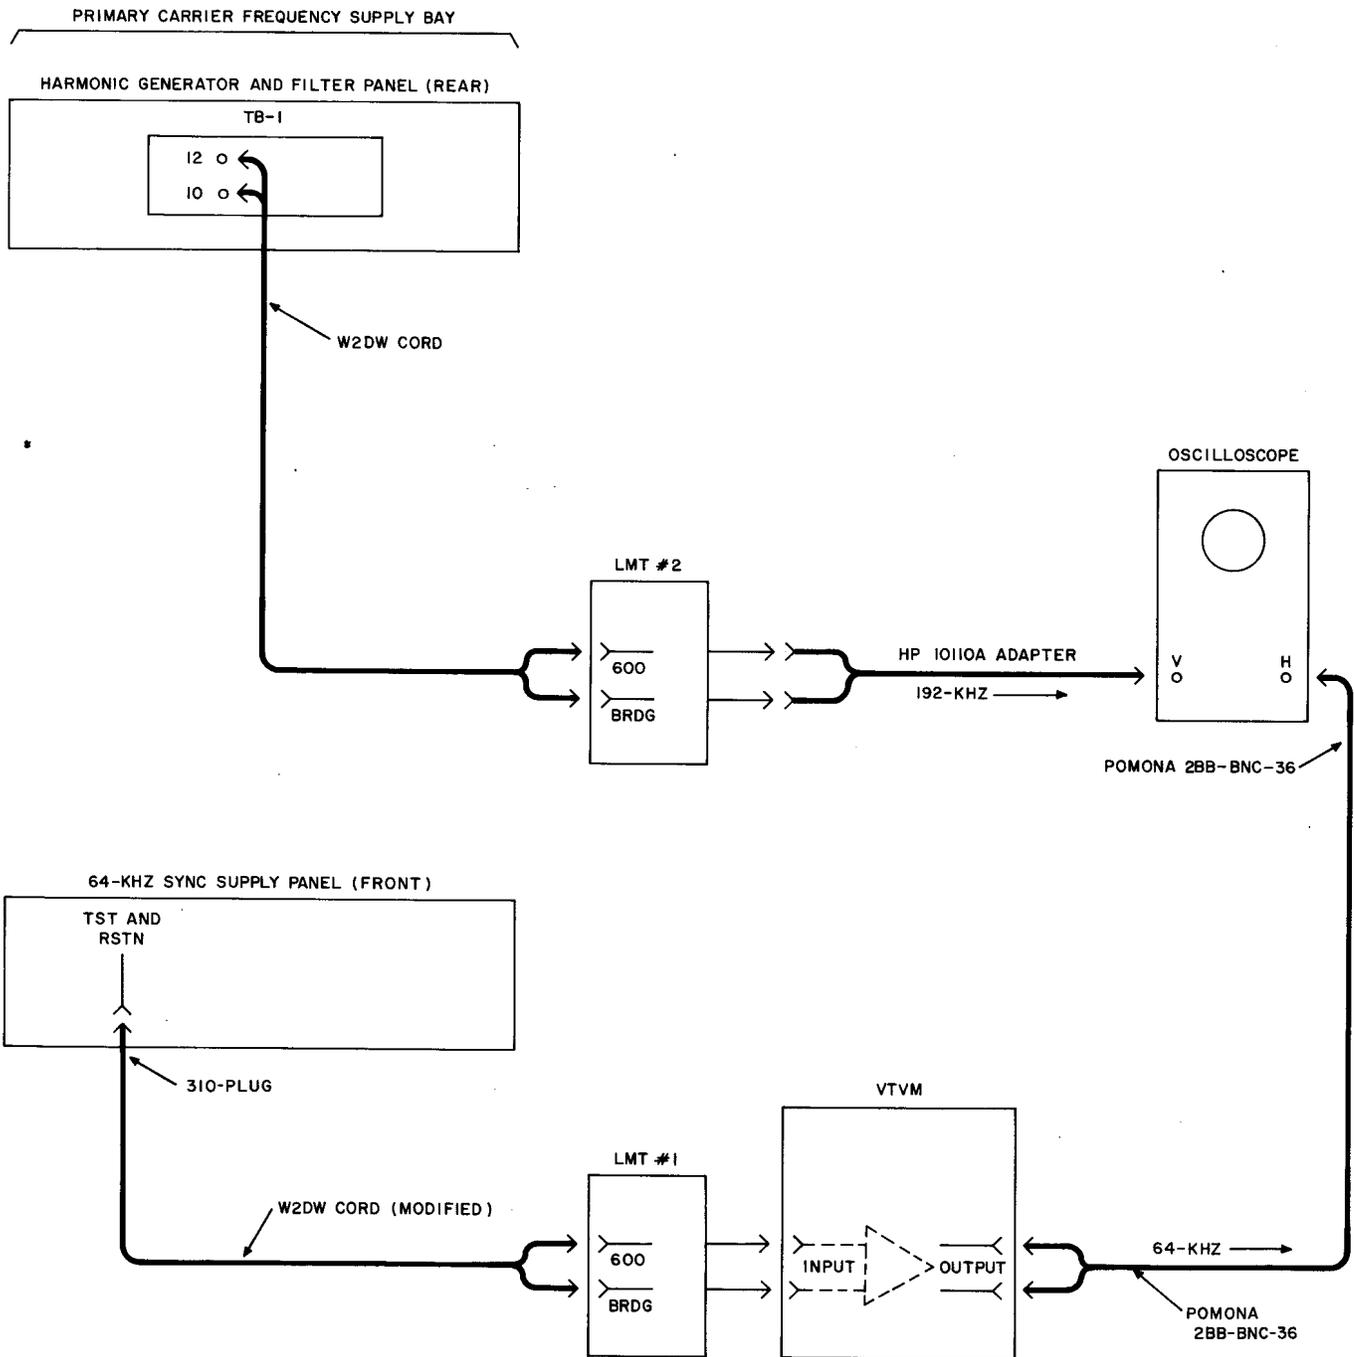

Fig. 9—Check of Phase Lock—Test Setup
- 4 Insert the banana plugs of LMT #1 into the VTVM INPUT terminals (see Fig. 9).